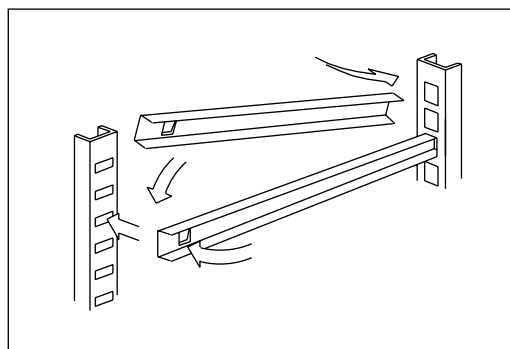

Fig.6
- position the grille holding guide rails in the holes of the racks ( Fig. 6 )